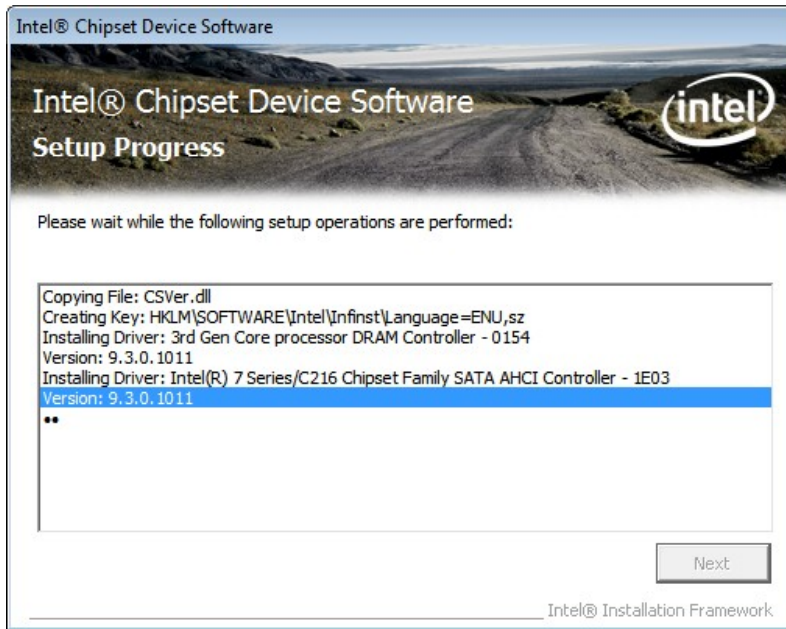

Figure 6-6: Chipset Driver Setup Operations
Step 10: Setup Operations are performed as shown in **Figure 6-6**.